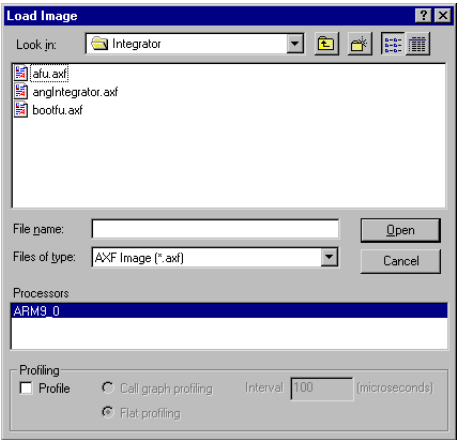

Figure 3-8 Loading the flash utility image
- a. Use the debugger to load the afu.axf flash utility application (see Figure 3-8 on page 3-11). For AXD, select **File** → **Load image**. Use the image that matches your board. (For the Integrator board, use the image in AFSv1_4\Images\Integrator\.)